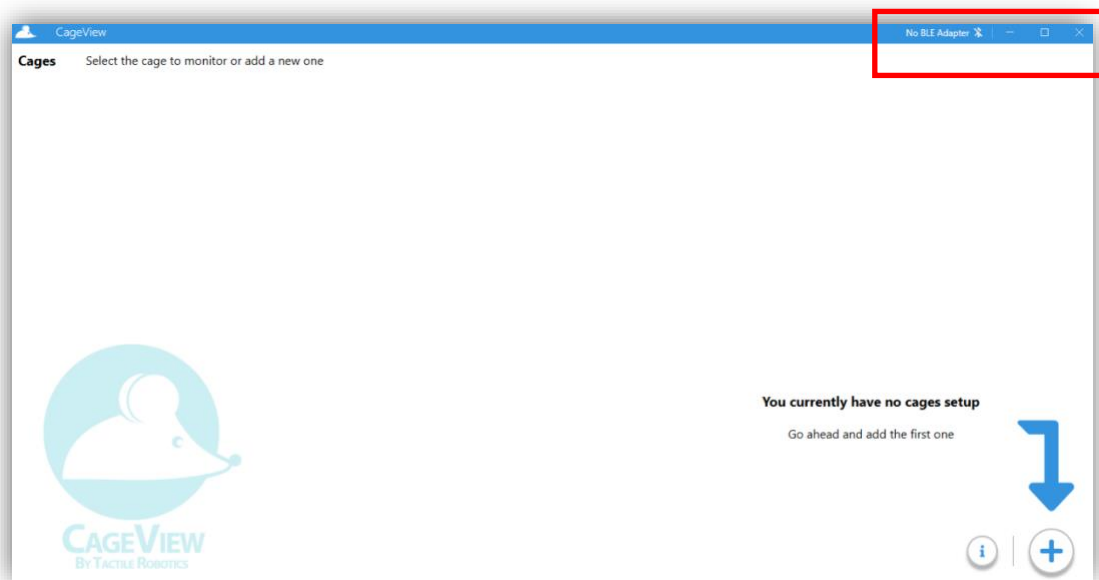

Figure 8. On the first page of CageView software, no BLE adapter
5.1.3. When no BLE adapter is found in the system or disabled under the device manager, the "No BLE Adapter" will appear in the BLE status indicator, as shown in **Figure 8**. The user cannot use the BLE functionality of the App in this state. A restart of the App is required when a BLE adapter is connected or enabled after the App's initial start-up.